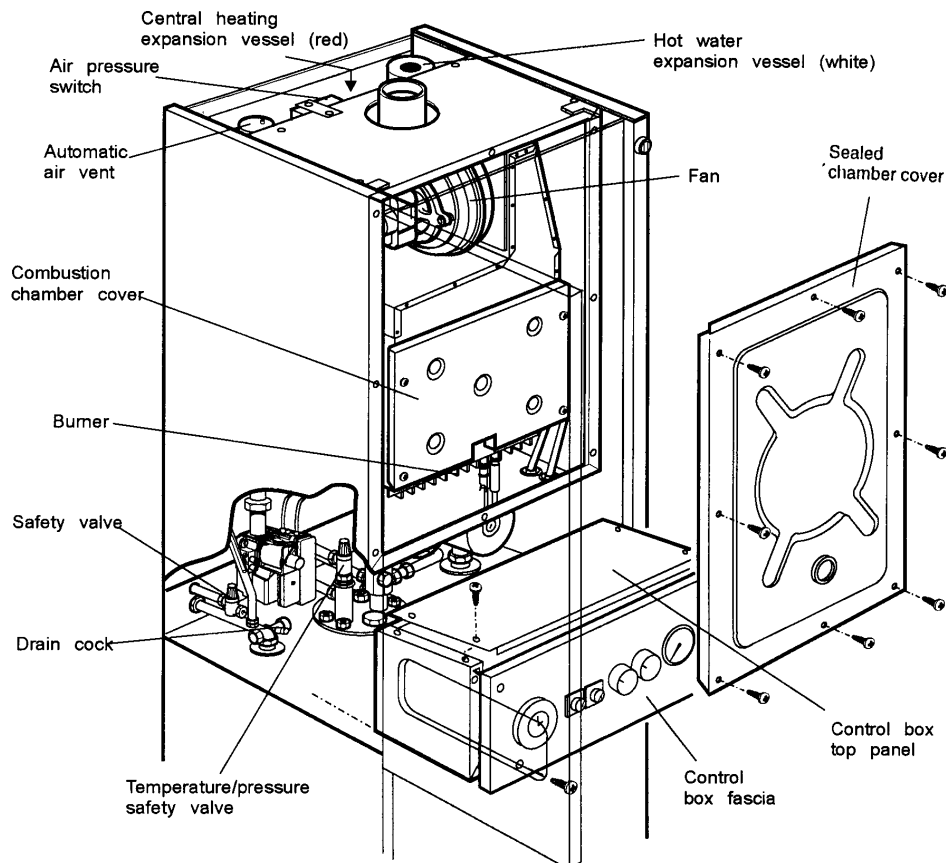

Fig.16
### 7.2 DISMANTLING PRIOR TO SERVICING (See Fig. 16)
**Refer to Figs. 16 and 18 for the position of the components.**